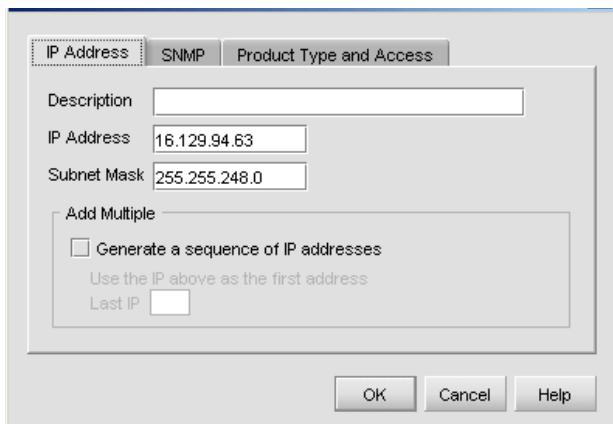

Figure 15 Domain Information dialog box (IP Address page)
2. Click **Add**. The Domain Information dialog box is displayed with the IP Address page open by default (Figure 15).